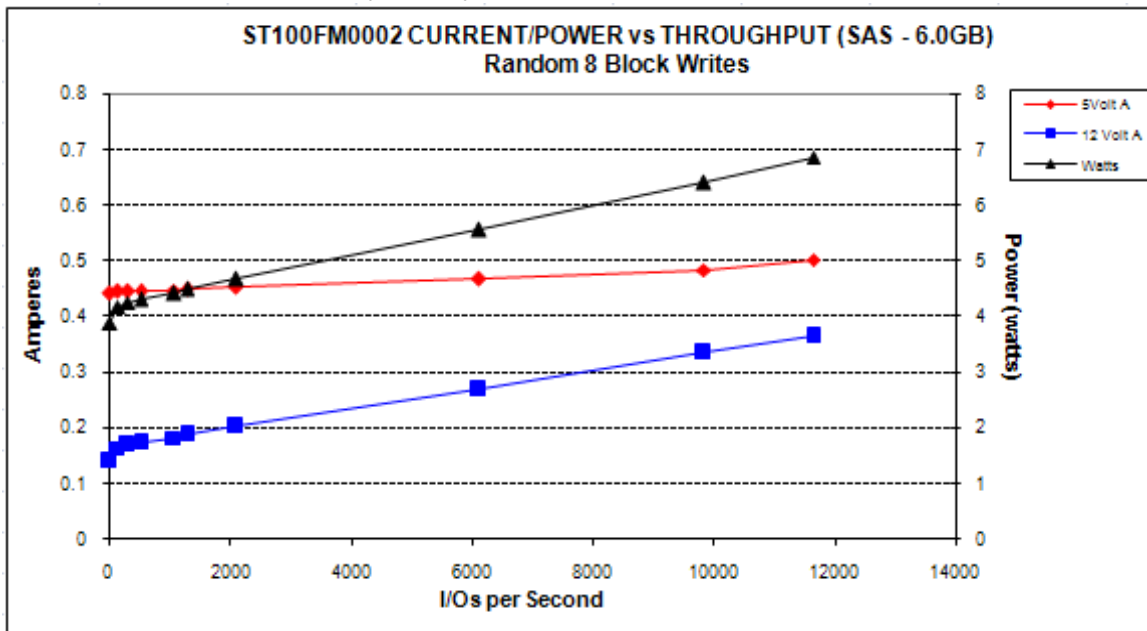

Figure 8. 100GB (at 6Gb) DC current and power vs. input/output operations per second
- [4] See +12V current profile in Figure 8 (for 100GB models).
To obtain operating power for typical random write operations, refer to the following I/O rate curve (see Figure 8). Locate the typical I/O rate for a drive in your system on the horizontal axis and read the corresponding +5 volt current, +12 volt current, and total watts on the vertical axis. To calculate BTUs per hour, multiply watts by 3.4123.